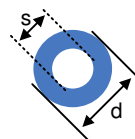

Figure 10-2. PowerPAD™ Layout Recommendation
- The thermal pad should be tied to the PCB ground plane with a minimum of 25 vias. See Figure 10-2 for an example.